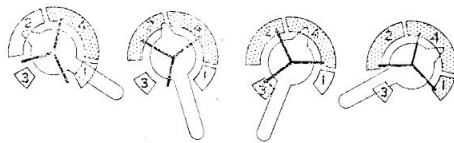

Fig. 2. Correlation of switch positions and terminal connections
6. The switch is manually operated by moving the knob moulding to the required position. The switch has a stay-put action in each of its four positions, thus the knob moulding will stay at the selected position. Due to the physical arrangement of the moulded-in contacts and the contact plate, the switch has a break-before-make switching action. The correlation between the switch positions and the terminal connections is shown in fig. 2. Table 1 details the continuity between the terminals for each of the four switch positions.